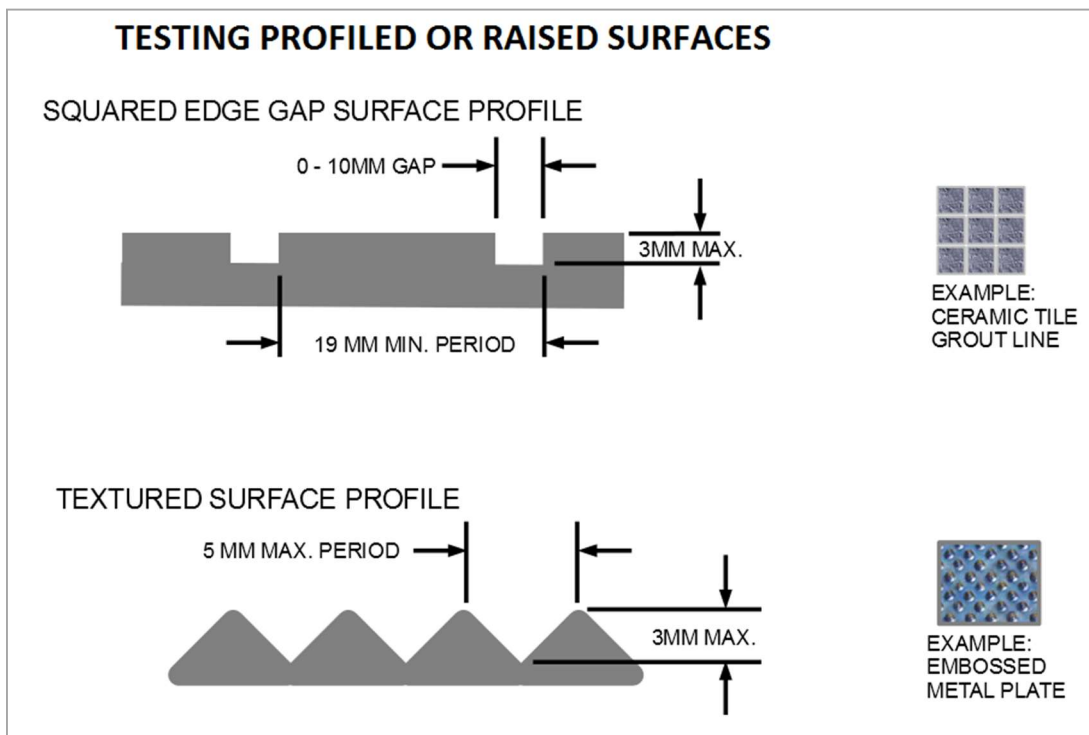

Figure 8
- Many types of textured or profiled floors can be tested without problems; however there may be occasional surfaces that can be quite challenging. These may be in the form of grates, embossed metal plates, mosaic tiles, random or patterned textured surfaces often found near pools, spas, patios, ramps, etc. See Fig. 8 for examples of limitations.